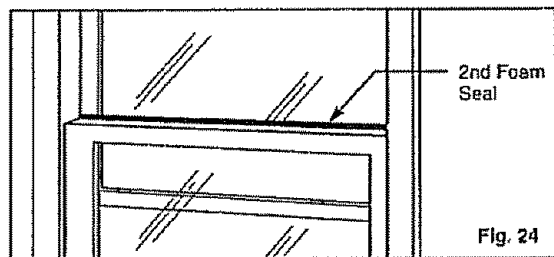

Fig. 24
- Cut the second foam seal to fit the opening between the top inside and outside window. See Fig 24.